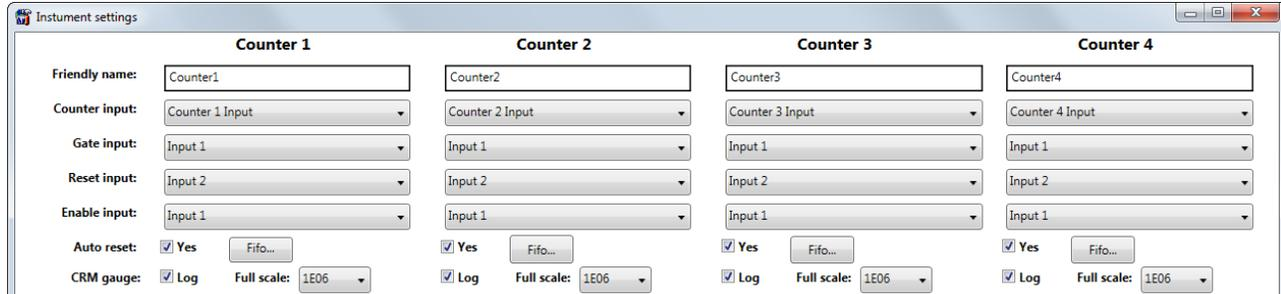

Figure 24. Setup for the Second 928.
Figure 24 shows the upper part of the Instrument Settings screen for the second 928. Only the Counter fields are shown because (1) the timers cannot be controlled from another 928 and (2) the outputs are not being used to control a third 928.